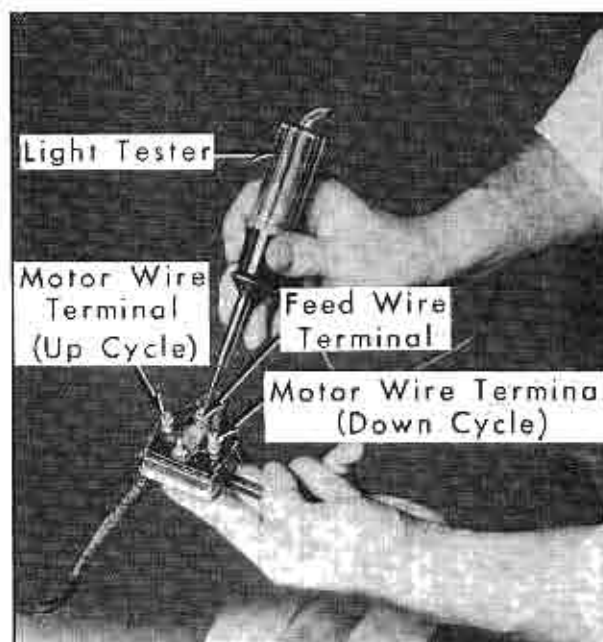

Fig. 3-98 Checking Switch to Motor Lead Wires
1. Connect a light tester to the feed wire terminal of the control switch. Fig. 3-98.